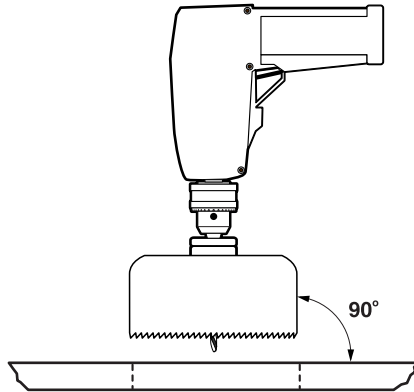

Figure 2-3 — Cutting the opening with a hole saw
2. Using a 6" hole saw on a portable drill, cut the mounting hole at the desired location (figure 2-3). Extron is not responsible for improperly positioned HSA products.